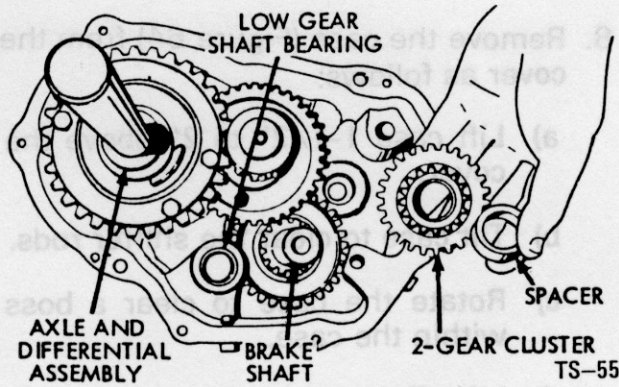

Figure 67 - Brake Shaft
12. Remove the two gear cluster and spacers (Figure 67) from the brake shaft.